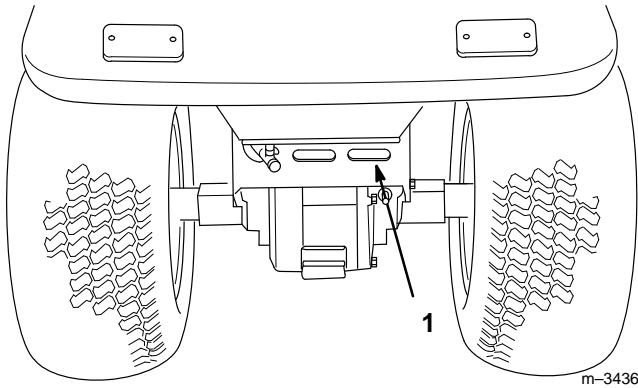

Figure 9
5. The rear transaxle cover is an air intake area for cooling the transaxle. Clean debris from the rear transaxle cover before operating the tractor (Fig. 9).